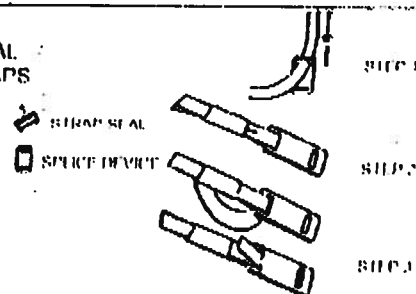

FIG. 5-12
- 4) The A-B chance strap seal device depicted by Fig. 5-12 may be used as directed for attaching the required doublewide centerline straps to ground anchors.
CHANGE STRAP SEAL DEVICE DEPICTED BY FIG. 5-12 MAY BE USED AS DIRECTED FOR ATTACHING THE REQUIRED DOUBLEWIDE STRAPS TO GROUND ANCHORS.
6. For double-wide homes see Fig. 5-12 for the splice connection at the centerline.